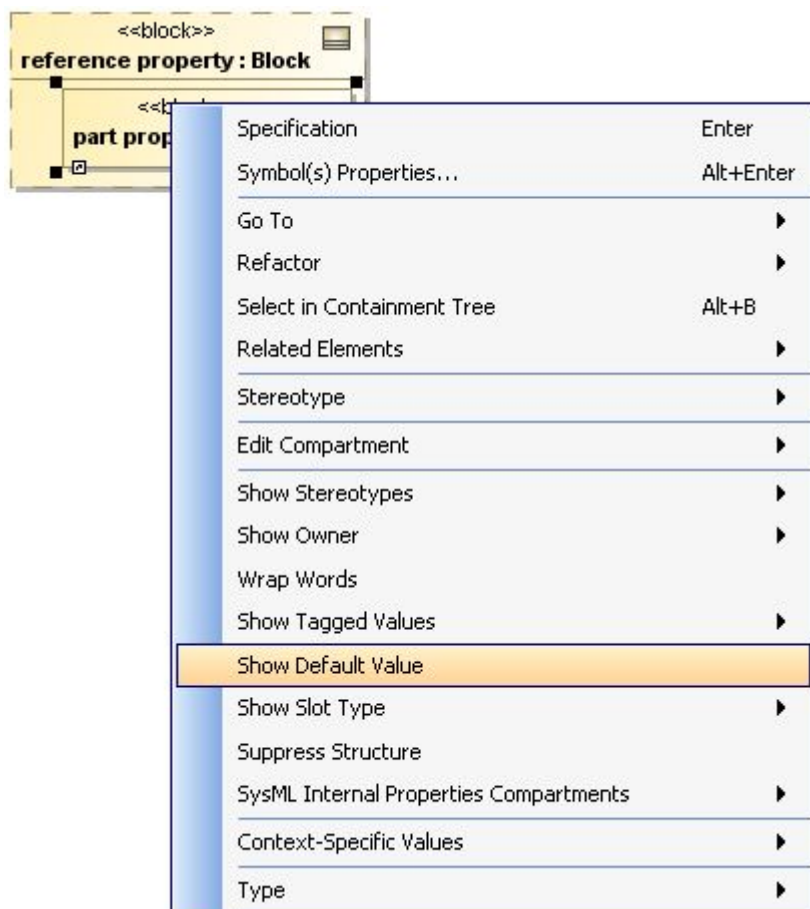

Figure 67 -- Property Shortcut Menu to Show Default Value
1. Right-click a part or property and select **Show Default Value** (if it already has a default value) on the shortcut menu (Figure 67).